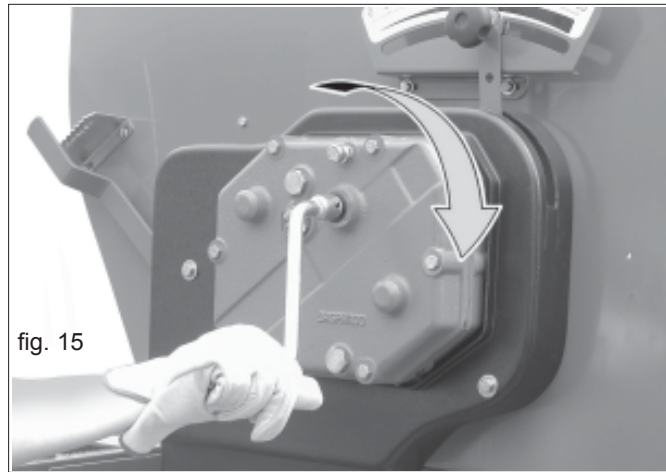

fig. 15
The direction of rotation of the handle is shown in Fig. 15.
- 4) Insert the crank (Fig. 15) on the gearbox shaft and rotate clockwise.